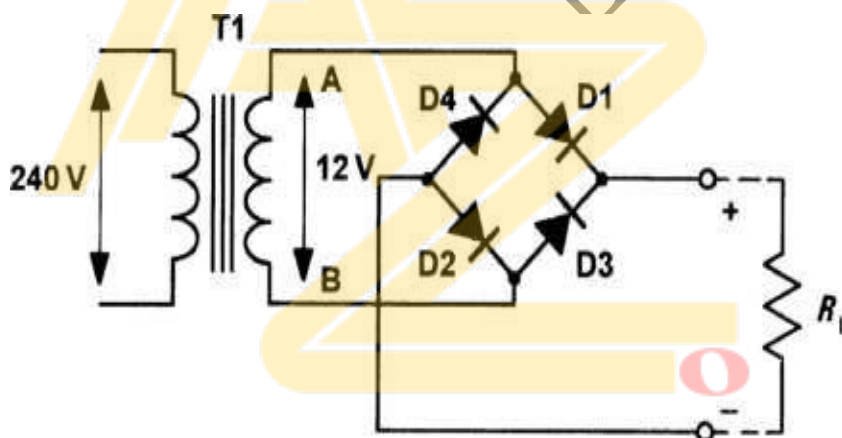

Figure 1.12 Full-wave bridge rectifier circuit
- A full-wave bridge rectifier arrangement is shown in Fig. 1.12.